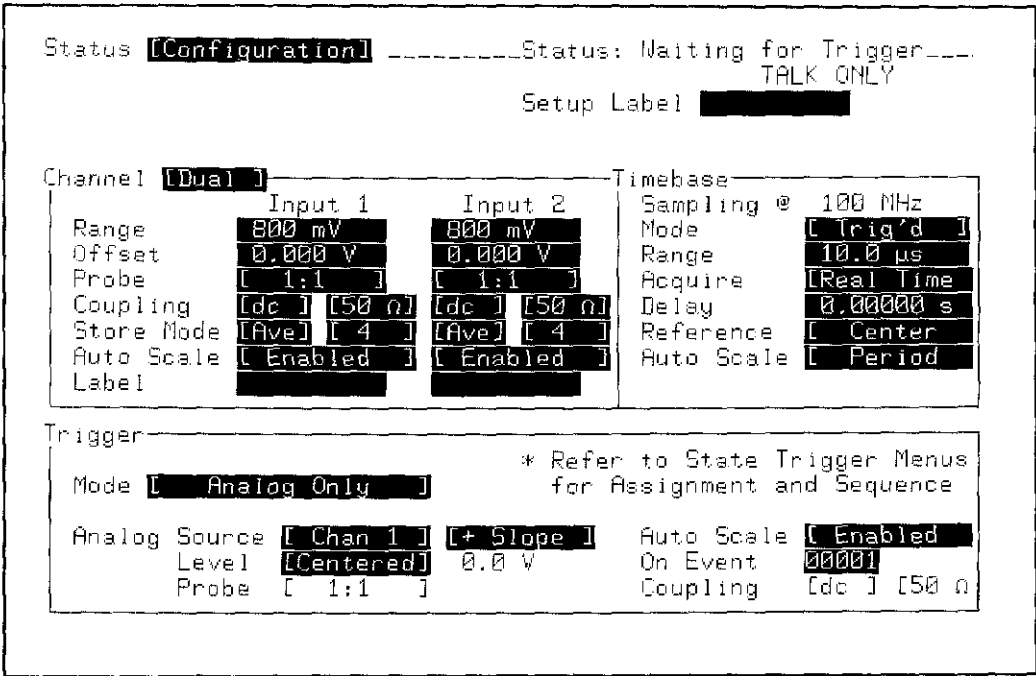

Figure 3-6. STATUS Configuration Menu
1. Configure STATUS Configuration menu as shown in figure 3-6.